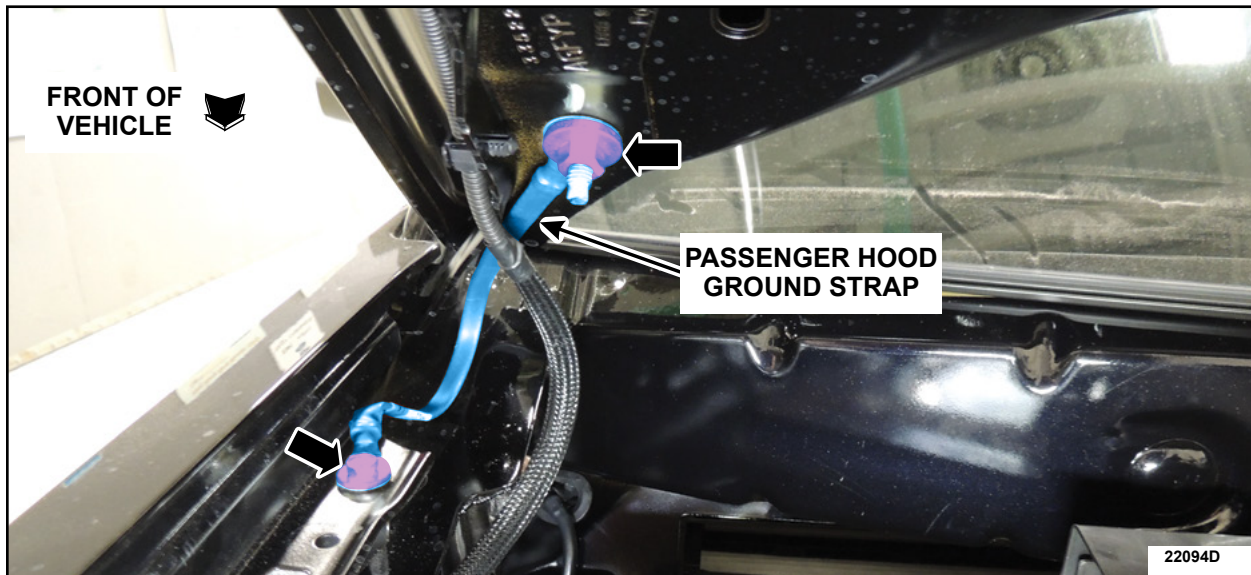

FIGURE 4
10. Install the passenger side ground strap and retainers. See Figure 4.